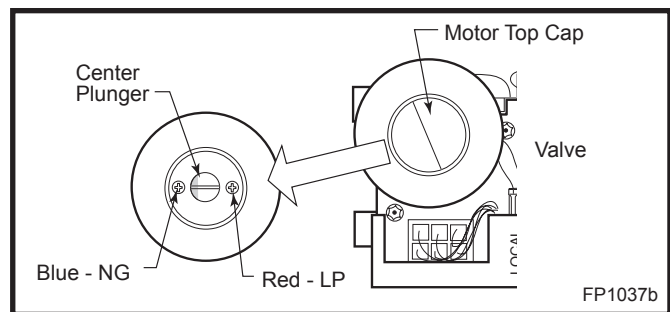

Fig. 62 Depress and turn center plunger.
1. Remove stove front. Lift stove front up and then swing bottom out and away to disengage from the stove body. (Page 32, Fig. 62)
3. Remove motor top cap. Depress and turn center plunger until arrow points to correct screw. Red for LP and Blue for NG. **NOTE:** Plunger will “snap” into NG position when arrow is close to blue screw. It will not “snap” at LP (Red) position. (Fig. 62)
1. Remove the Front, Glass Frame and Glass Panel. (Figs. 62 & 63) Remove the old gasket. Use a razor blade to separate the glass and gasket from the frame, and to clean the glass of any remaining cement or bits of gasket. Use a cold chisel if necessary.